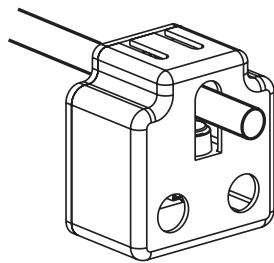
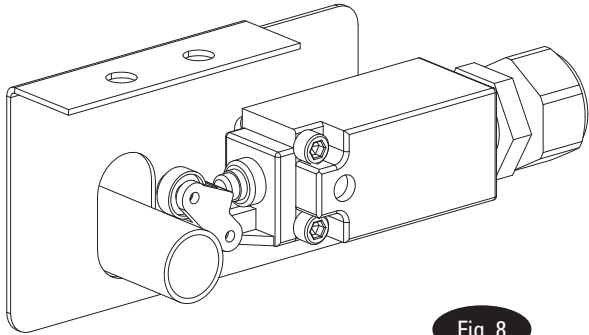

Fig. 7
Fig. 8
7a. Overhead Assembly: Fig. 11: Adjust overhead to appropriate dimension. Install (4) 3/8"-16NC x 3/4" HHCS & 3/8"-16NC Flanged Locknuts, do not tighten. Slide Switch Box over switch bar ensuring knock out holes face the power unit column, Fig. 7 and Fig. 8. Use (2) 1/4"-20NC x 3/4" lg. HHCS, 1/4"-20NC Nuts and 1/4" Star Washers to mount switch box to overhead, see Fig. 11. For SPOA10 Extra Narrow Bay Setting installation, see step 7b, all others go to step 7c.